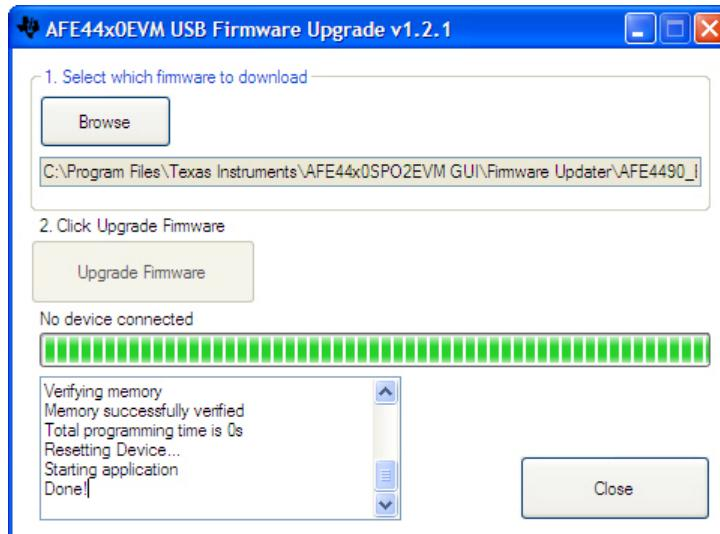

Figure 39. PC Application Firmware Upgrade – 4
- Once the device is programmed successfully, as shown in Figure 39, the device resets and reloads with the new firmware. Close the *Firmware Upgrade* application by clicking on the **Close** button and the PC GUI application automatically restarts the GUI after 4 to 5 seconds.